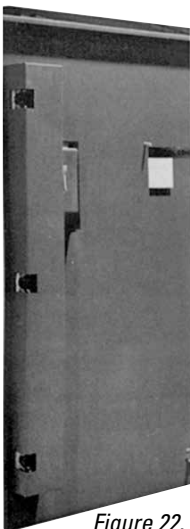

Figure 22.
- Automatic 3-point latching upon door closure. See Figure 22.